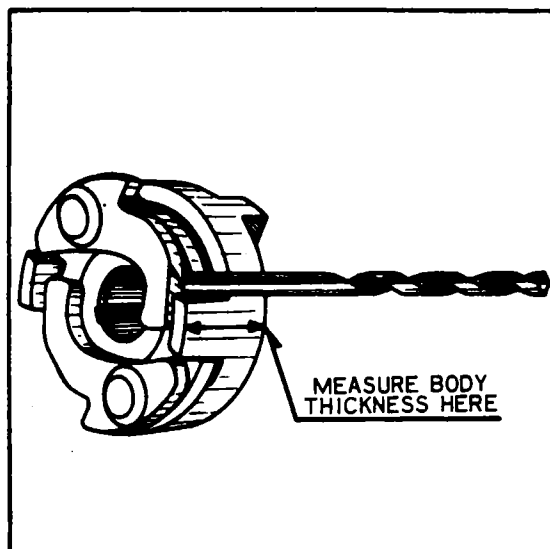

Figure 8-14. Impulse Coupling
- i. Inspect impulse coupling (-21 magneto) flyweights for excessive looseness on the axles. Design couplings having 0.927 inch thick body are checked with a 1/8 drill. Couplings having 0.974 inch thick body are checked with a No. 18 drill. If drill fits between cam and flyweight, the fit is too loose and coupling should be replaced. (Refer to Figure 8-14.)